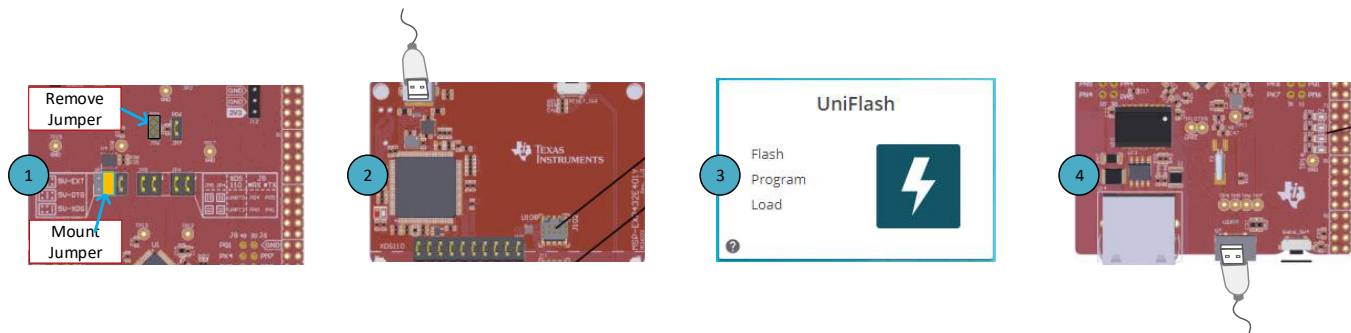

Figure 3. LaunchPad™ Setup
1. Remove jumper JP6 on the LaunchPad, as shown in step 1 of Figure 3.
2. Mount the jumper on 5V-OTG. Retain the jumper on 5V-XDS, as shown in step 1 of Figure 3.
3. Connect the USB cable to the port on the XDS110 side of the board, as shown in step 2 of Figure 3.